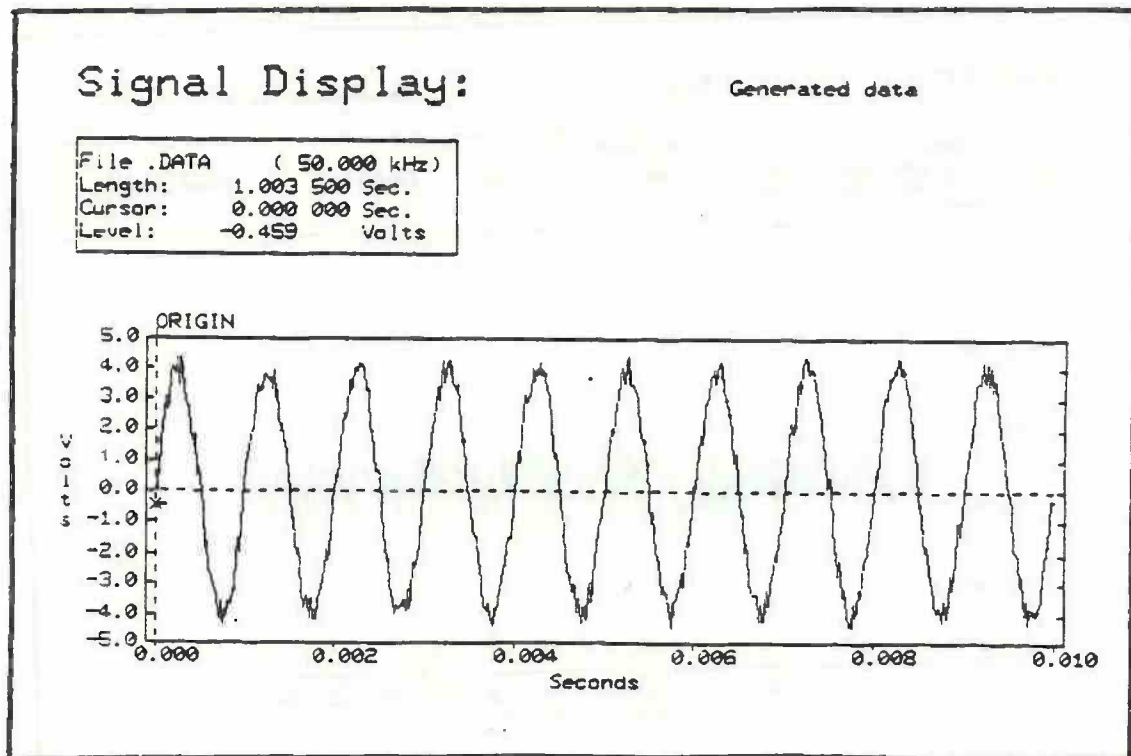

Figure 11.3
3. When the computation is completed, press RETURN to see the signal display (Figure 11.3).